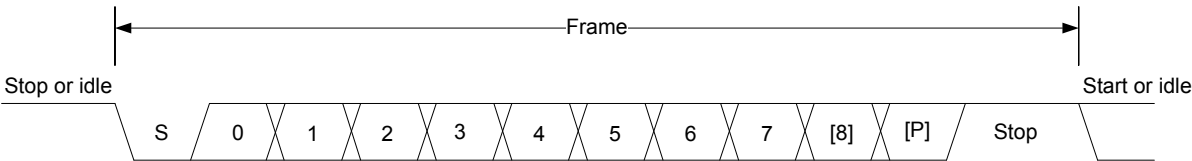

Figure 20.2. LEUART Asynchronous Frame Format
The frame format used by the LEUART consists of a set of data bits in addition to bits for synchronization and optionally a parity bit for error checking. A frame starts with one start-bit (S), where the line is driven low for one bit-period. This signals the start of a frame, and is used for synchronization. Following the start bit are 8 or 9 data bits and an optional parity bit. The data is transmitted with the least significant bit first. Finally, a number of stop-bits, where the line is driven high, end the frame. The frame format is shown in Figure 20.2 LEUART Asynchronous Frame Format on page 659.